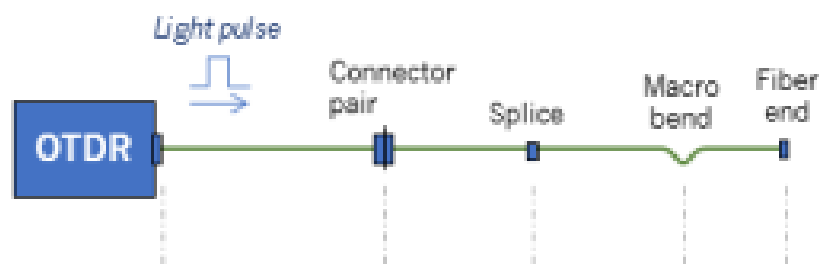

Figure A3(b)
- (b) Visualize completely the Optical Time Domain Reflectometer (OTDR) tracing for the events show in Figure A3(b).